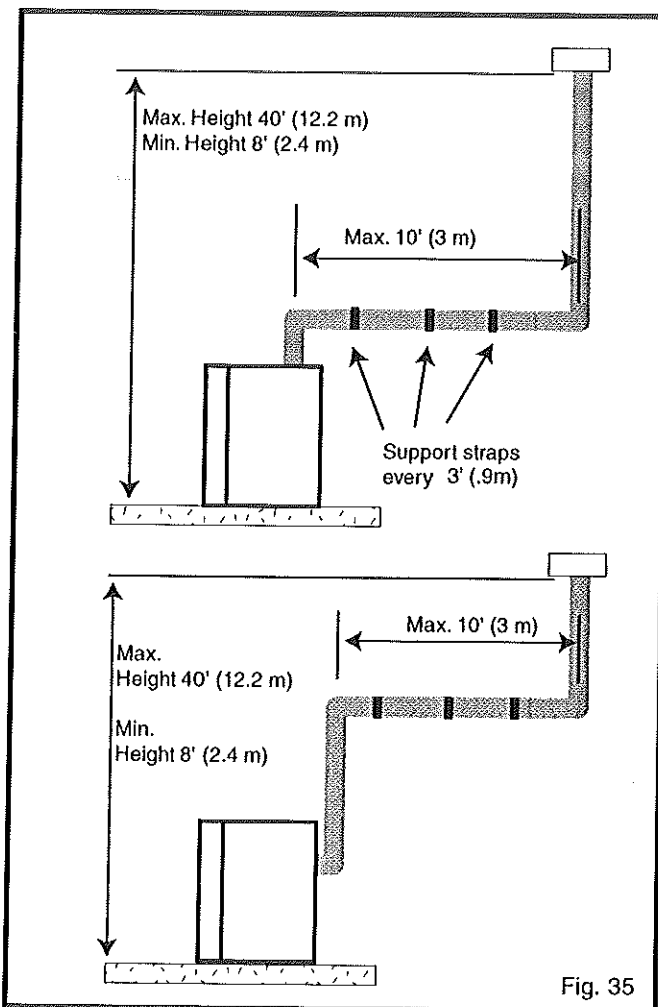

Fig. 35
- Vertical installations up to 40' (12m) in height. Up to a 10' (3 m) horizontal vent run can be installed within the vent system using a maximum of two 90° elbows (Fig. 35).